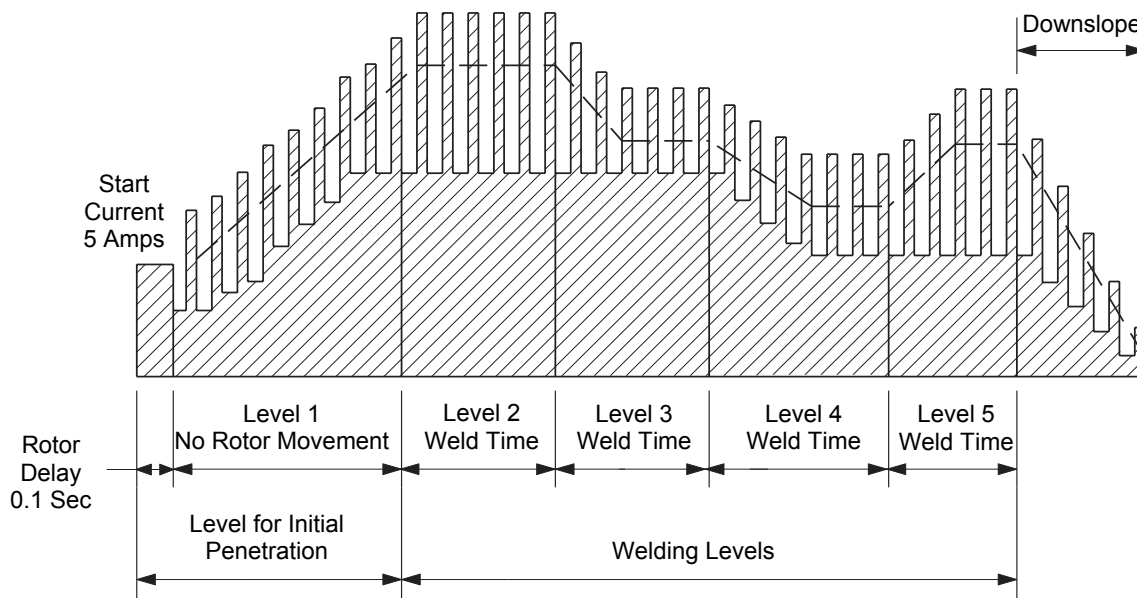

Figure 93 Ramp Time: Weld Penetrates Completely Before Rotor Moves
2. The weld must penetrate completely before the rotor begins to move, see Figure 93. After the basic weld program is developed, duplicate level one by using PROG/MODIFY/INSERT LEVEL. The following is accomplished in PROG/MODIFY/EDIT ITEM: